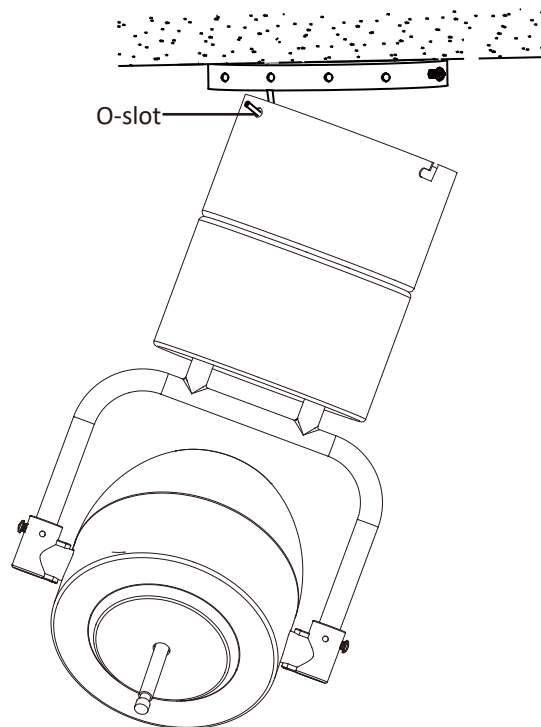

Fig.5
- 2.Hang the canopy's O-slot onto the J-hook of the mounting plate (see Fig. 5).